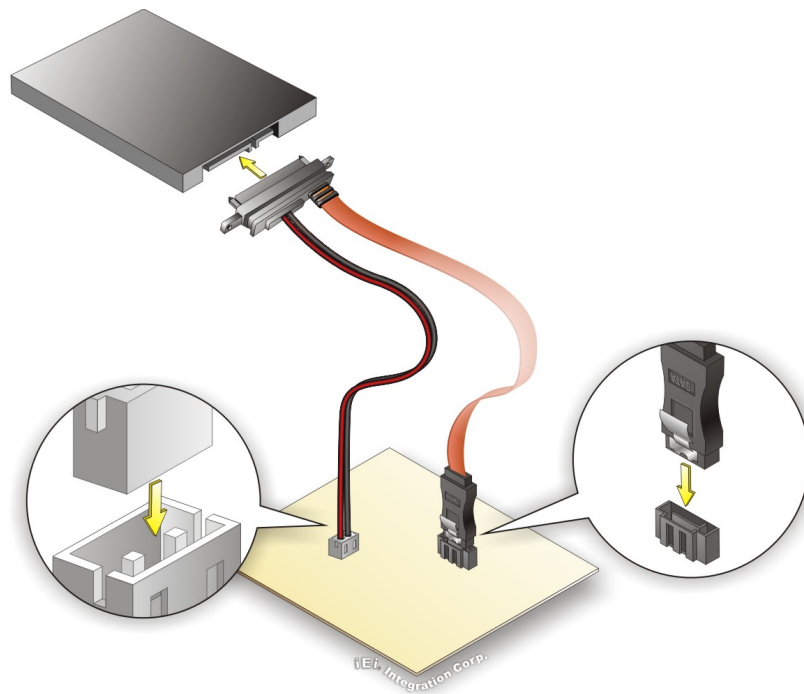

Figure 4-22: SATA Drive Cable Connection
- Step 2: Insert the cable connector.** Insert the cable connector into the on-board SATA drive connector and the SATA power connector. See **Figure 4-22**.
- Step 3:** **Connect the cable to the SATA disk.** Connect the connector on the other end of the cable to the connector at the back of the SATA drive. See **Figure 4-22**.